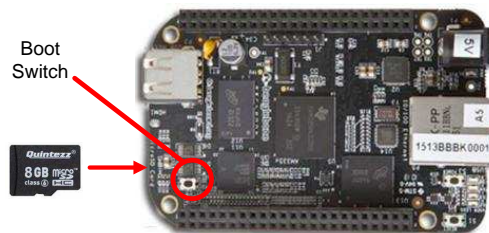

Figure 3. Boot BBB from SD Card
2. Insert the SD card into the BBB (see Figure 3).